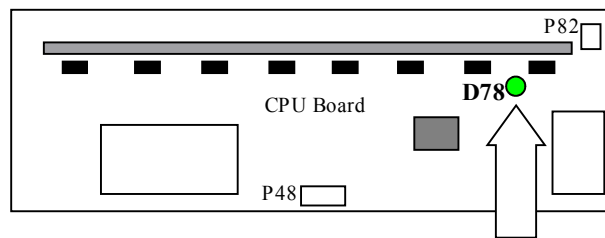

Figure 12 CPU Board
3. With cuvette number 10 under dry needle, control that led D78 on instrument CPU board is lighted ON. If not, move step by step reaction tray in order to have led D78 lighted ON, Figure 12